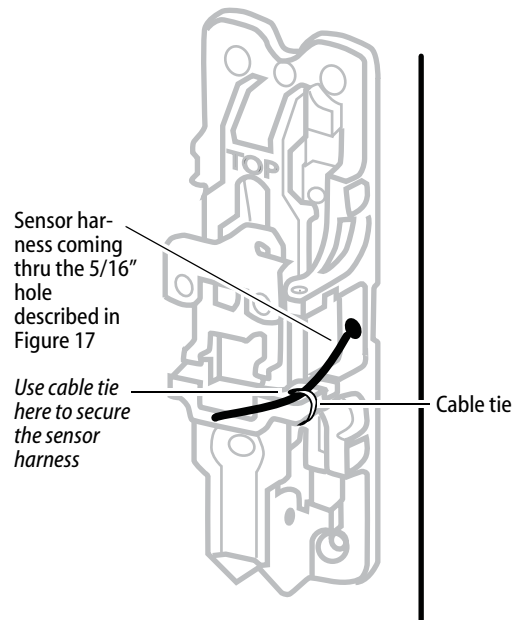

Figure 26 Using cable ties to hold wires for Precision 2200, 2700, and 2800 exit devices
- Note:** For Precision 2200, 2700, and 2800 exit devices, use cable ties in addition to the tape, to hold wires as shown in Figure 26.